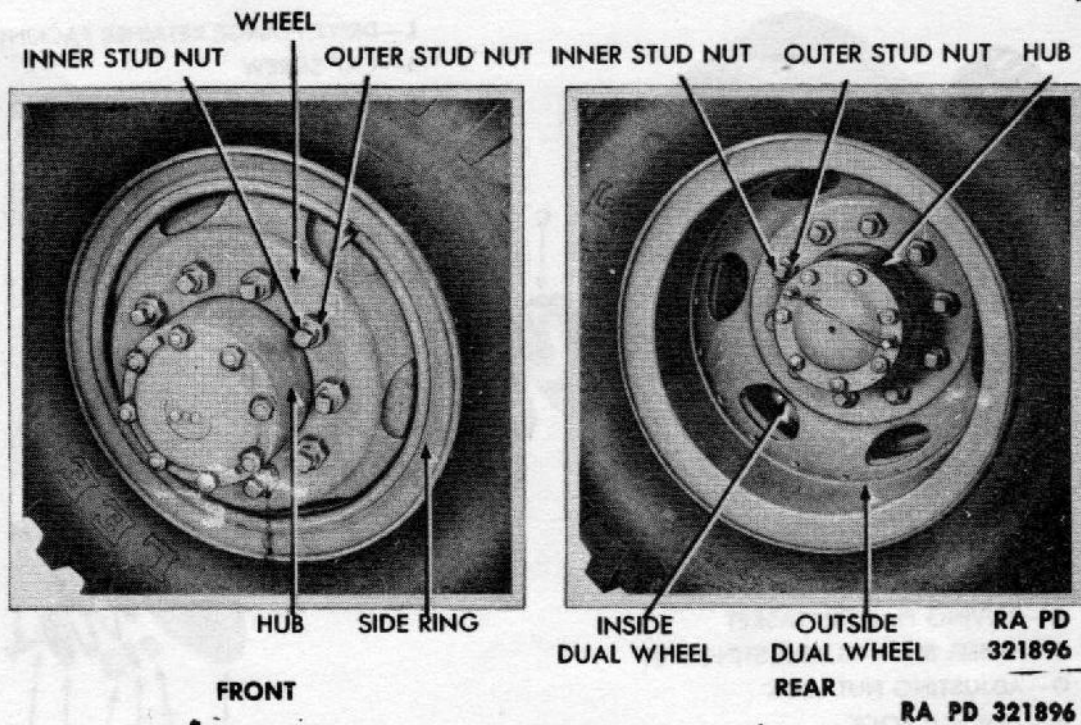

Figure 121 – Front and Rear Wheels Installed
(1) DESCRIPTION (fig. 121). The vehicle is equipped with seven identical wheels which may be mounted singly or dually on front and rear hub assemblies. Normally, dual wheels are employed on the rear, while the front uses single wheels. A spare wheel is carried at rear of the ponton body on a tire carrier. The wheels are attached with 10 inner and 10 outer stud cap nuts. Inner nuts have square heads stamped with an "R" or "L" to indicate right-hand or left-hand threads. Nuts with right-hand threads are used to attach wheels on right-hand side of truck; nuts with left-hand threads are used to attach wheels on left-hand side of truck. The outer nuts have hex heads, and are mounted on the inner nuts. These nuts are installed, even when outer wheel is not used. Wheels mounted dually are installed with the hub flanges facing each other.
b. Removal (fig. 121). Set propeller shaft brake, and block wheels to prevent vehicle from moving. Loosen the 10 stud cap nuts which secure wheel to hub assembly. Using a suitable lifting device, lift wheel clear of floor. Remove the 10 stud nuts. If two wheels are mounted dually, remove the outer hex-head stud nuts first. Remove outer wheel. Remove inner wheel as described above.
c. Installation (fig. 121). Position wheel on hub assembly. If wheel is to be mounted alone, install the 10 inner and 10 outer stud cap nuts. If wheel is to be mounted dually, install the 10 inner stud cap nuts. Mount second wheel, and install the 10 outer stud cap nuts. Tighten nuts, in opposite positions alternately, to insure proper alignment of wheel and hub. Lower wheel to floor. Release brake, and remove blocks from wheels.